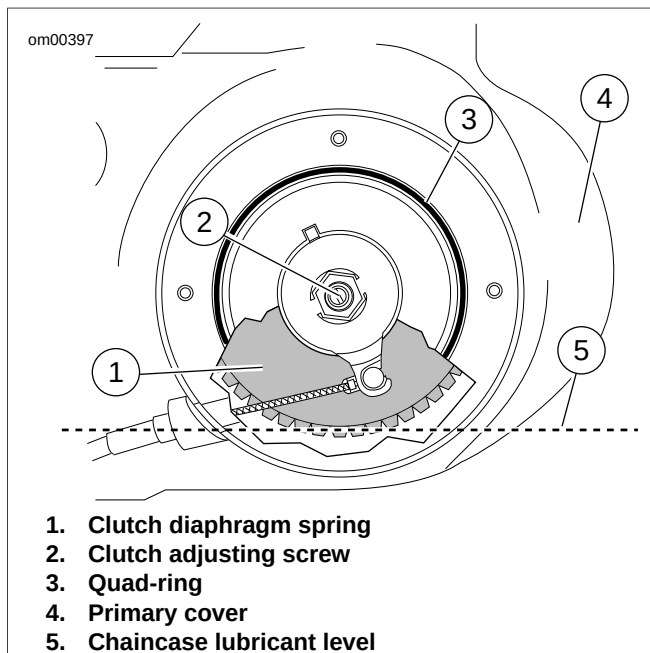

Figure 1-49. Chaincase Lubricant Level: Sportster Models
6. See Figure 1-49. Verify that lubricant level is even with bottom of clutch diaphragm spring.